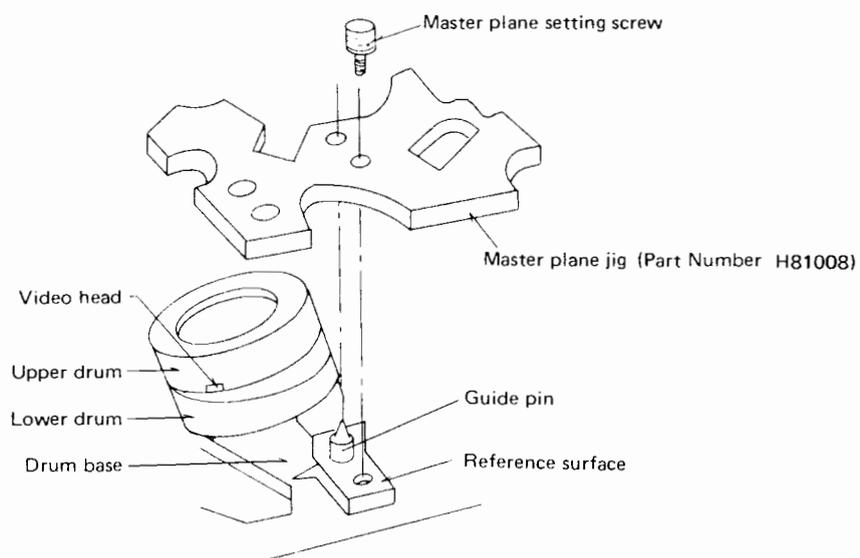

Fig. 1-3
5. Install the Master Plane jig being careful not to hit the Drum assembly which may cause damage. (See Fig. 1-3 below)
5. Install the Master Plane jig being careful not to hit the Drum assembly. (See Fig. 1-3)